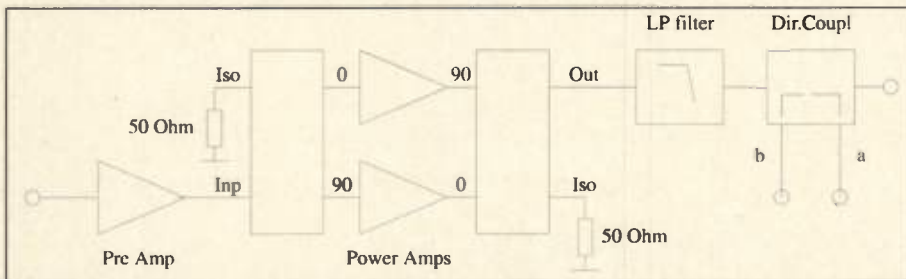

Figure 1. Principle of a 350 Watt quadrature combined power amplifier.
Finally, the open and closed loop gain can be tabulated and plotted. Table 3 shows the printed program output corresponding to the open-loop gain plot in Figure 1.
500-watt Gemini package intended for push-pull operation are available from various companies. The TP1940 from Motorola (4) seems to have good performance combined with low price. It is around this transistor that the balanced power amplifier and the block diagram of Figure 1 are designed.